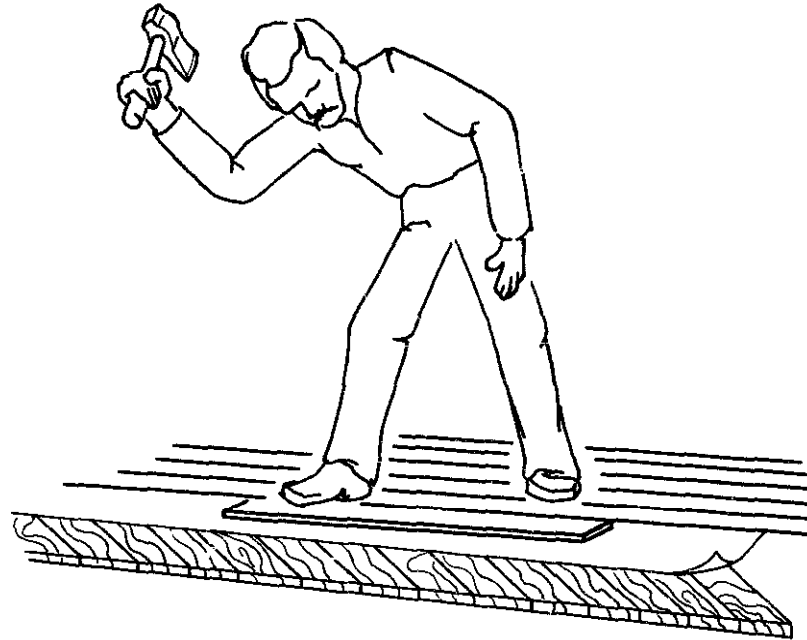

Fig. 9-7 Driving up tongue and groove flooring with a hatchet.
4. To nail and drive up tongue and groove flooring tightly, use the backside of the claw hatchet as though it were a hammer. See figure 9-7.